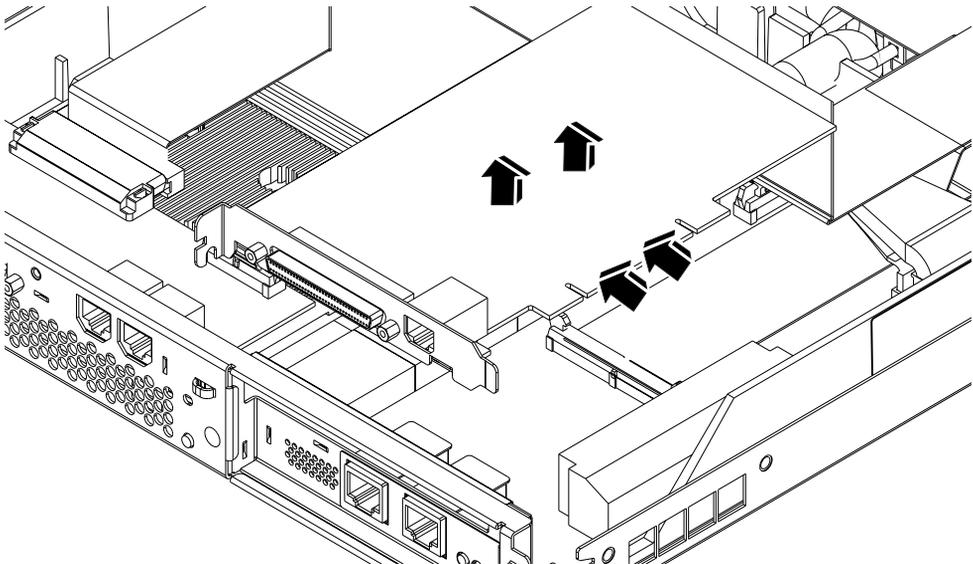

FIGURE B-4 Removing a PCI Card
5. Remove the blanking panel or the PCI card currently occupying the PCI slot (see FIGURE B-4).